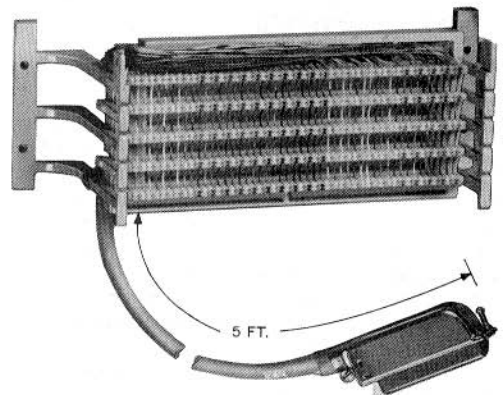

Fig. 2—88-Type Wiring Block With Connector Cable
- (4) The third suffix numeral assignment is to identify minor design differences resulting from engineering or manufacturing improvement.
- (5) The number following the dash indicates the number of pairs that can be terminated.
- (6) The letter C following the number of pairs indicates the block is supplied with a factory-wired connector-ended cable 5 feet long (Fig. 2). The blocks are factory-wired to give five multiples for each conductor. On prewired blocks, extra multiples can be provided using the 3-way bridging adapter, KS-19252,L2 (PCP), for no more than ten multiples. Refer to Section 461-200-101 for information on adapters.